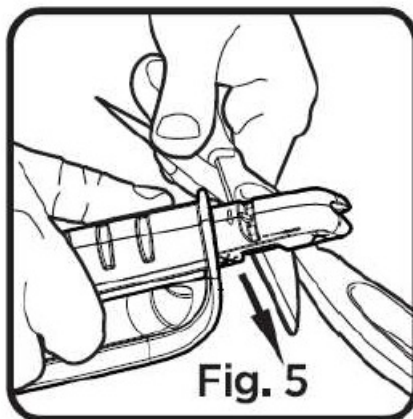

Fig. 5
- Hold the sharpener at a slight angle to the blades. Stroke the sharpener along the cutting edge from heel to tip in direction of indicator arrows. (See Fig. 5)